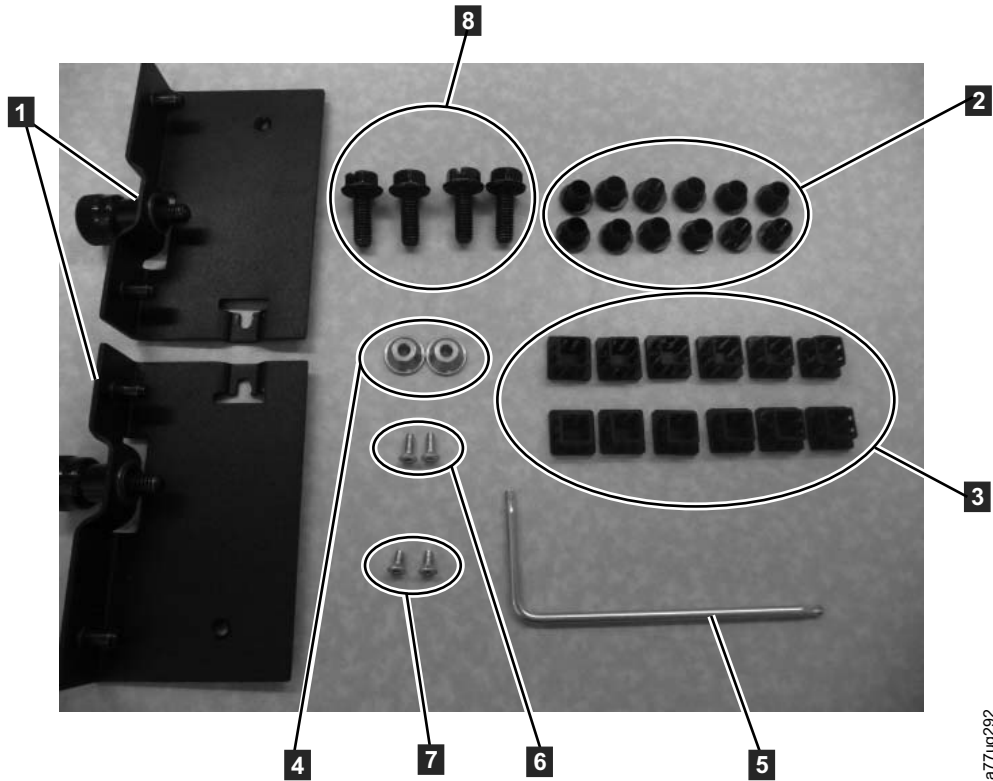

Figure 4-5. Rack Kit B mounting hardware
- 2 mounting brackets with captive thumb screws (**1** in Figure 4-5)
- 1 Torx wrench (**5** in Figure 4-5)